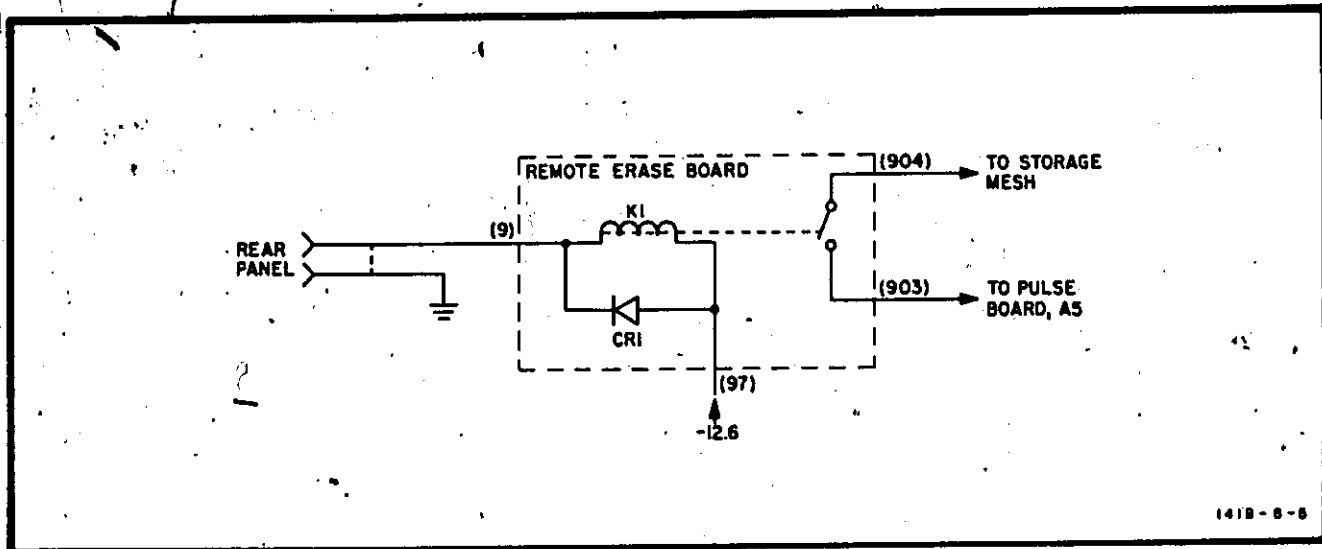

Figure 7-1. Option 009 Schematic Diagram
b. OPTION 009: This option provides for a remote erase function through a BNC connector on the rear panel. Complete wiring information is shown in Figure 7-1 and replaceable parts are listed in Table 7-2.